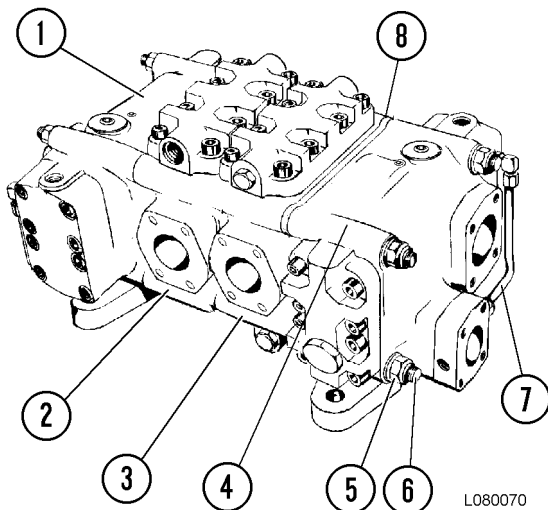
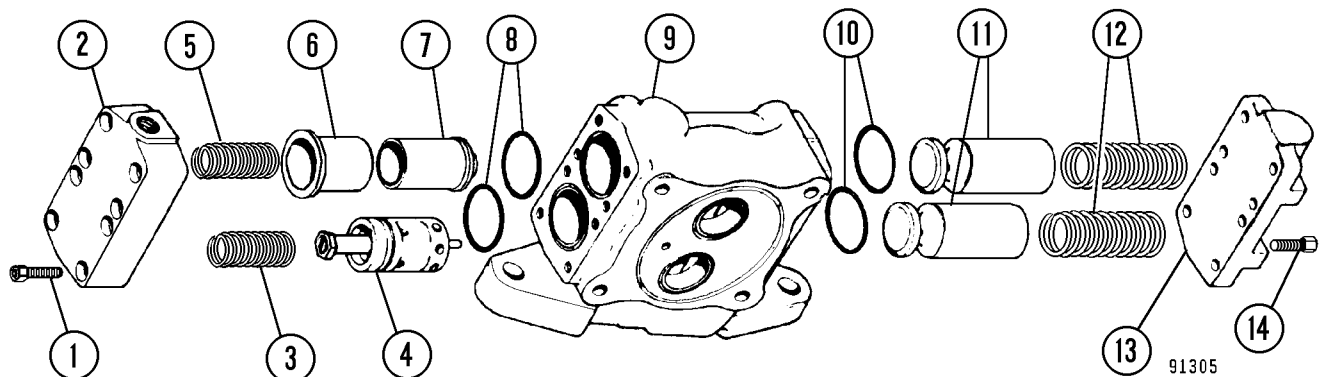

FIGURE 8-2. HOIST VALVE ASSEMBLY
FIGURE 8-5. INLET SECTION DISASSEMBLY
NOTE: The hoist valve must be positioned with separator plate (8, Figure 8-2) toward the front of the truck.
1. Remove four tie rod nuts and washers (5, Figure 8-2) from one end of the valve. Slide the tie rods from the valve and separate the sections.
2. Disconnect external tube (7, Figure 8-2) at the cover end. Remove capscrews (14, Figure 8-5), and cover (13). Remove springs (12), check valves (11), and O-rings (10).
3. Remove capscrews (1, Figure 8-5) and cover (2). Remove springs (3) and (5) and flow control/main relief valve (4). Remove sleeve (6), low pressure relief valve (7), and O-rings (8).
3. Install check valves (11, Figure 8-5) in their respective bores. Install springs (12).
4. Install O-rings (10) and cover (13). Install and tighten capscrews (14) to **81 N·m (60 ft lb)**.
5. Install low pressure relief valve (7) in sleeve (6), then install the assembly in housing (9). Install flow control/main relief valve (4). Install springs (3) and (5). Install cover (2). Install and tighten capscrews (1) to **81 N·m (60 ft lb)**. Connect the external tube and tighten the nuts to **34 N·m (25 ft lb)**.
NOTE: It is not necessary to remove inlet sections (1) or (4, Figure 8-2) to accomplish disassembly of spool section (2) or (3).